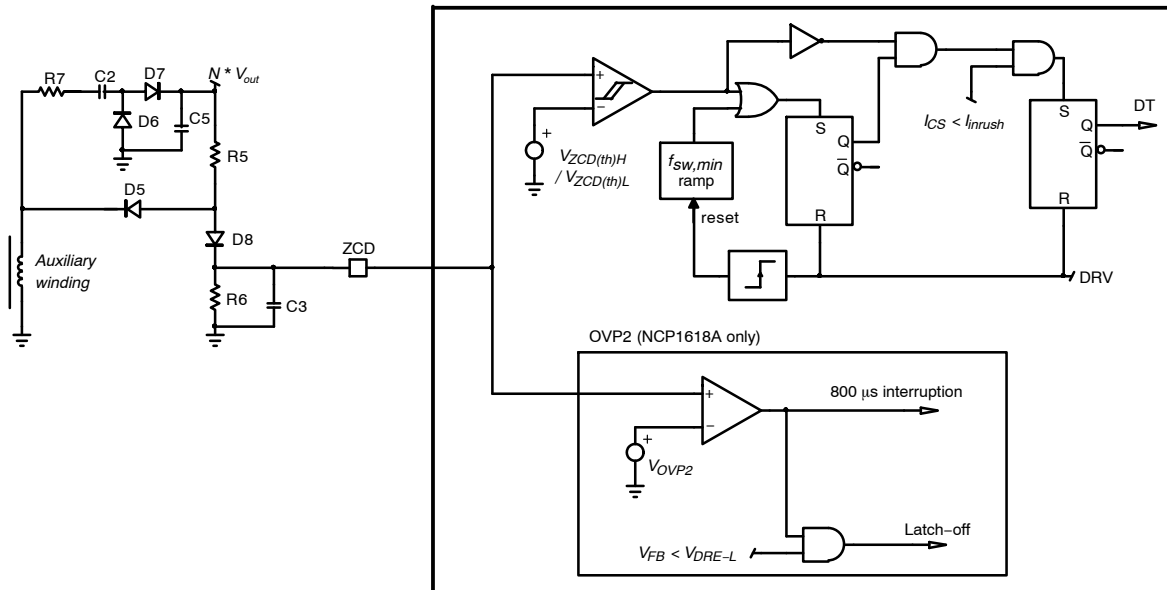

Figure 10. Zero Current Detection Block
- Application note AND90011 discusses recommended circuitries for an accurate ZCD and OVP2 detections. Figure 10 provides one of these circuitries. In this circuit, R_7 being small, capacitor C_2 is charged to
Figure 10 shows how the NCP1618 detects the valley.
- The ZCD pin impedance (for instance R_3 of Figure 10), must be higher than $7.5\text{ k}\Omega$ not to trigger the ZCD pin short-to-ground protection.
If no ZCD can be detected when the circuit operates in FCCrM mode, the circuit cannot use the valley detection to start a new current cycle. In this case, the next DRV pulse is forced by the DCM minimum frequency ramp ($f_{sw,min}$ ramp of Figure 10) which acts as a watchdog.
- If the pin is grounded, no falling edge of the auxiliary winding can be detected. The DRV remains off until the DCM minimum frequency ramp initiates a new cycle. Before the new pulse is generated, the circuit senses the pin impedance by sourcing $250\text{ }\mu\text{A}$. No DRV pulses are generated until the pin voltage exceeds V_{ZCDH} . Hence, the part is inhibited when the pin is grounded. Not to trigger this protection, the pin impedance (for instance R_3 of Figure 10, must be higher than $7.5\text{ k}\Omega$).